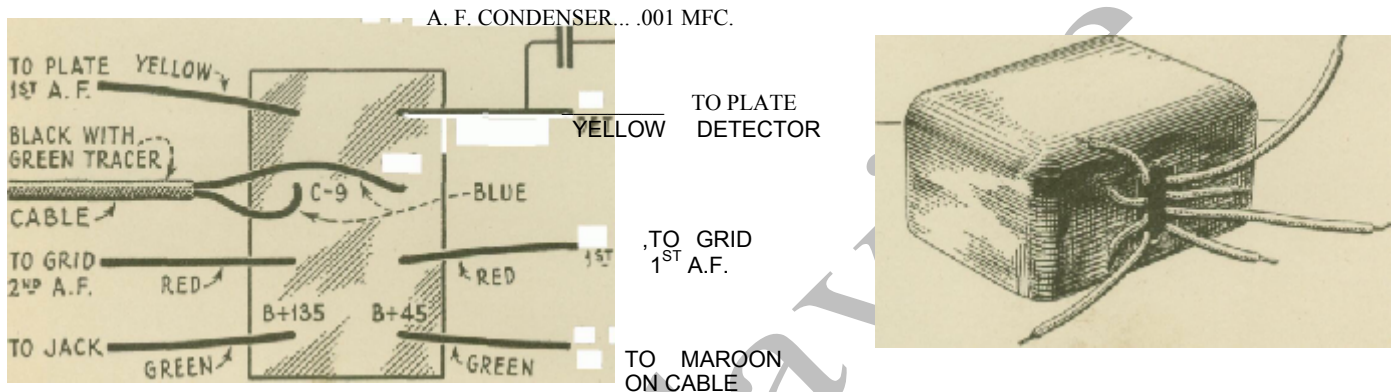

Figure 10—Audio frequency transformers and color scheme of connections
5. Solder all leads in place as indicated by tags attached. The color scheme of these connections is shown in Figure 10.
(7) REPLACING CONDENSER DRIVE CABLE